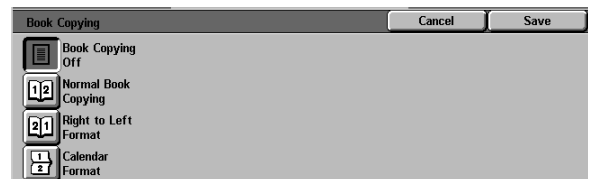

Figure 10: Book Copying screen with the Book Copying Off option selected
- 2 Touch the **Book Copying Off** icon, as in Figure 10.